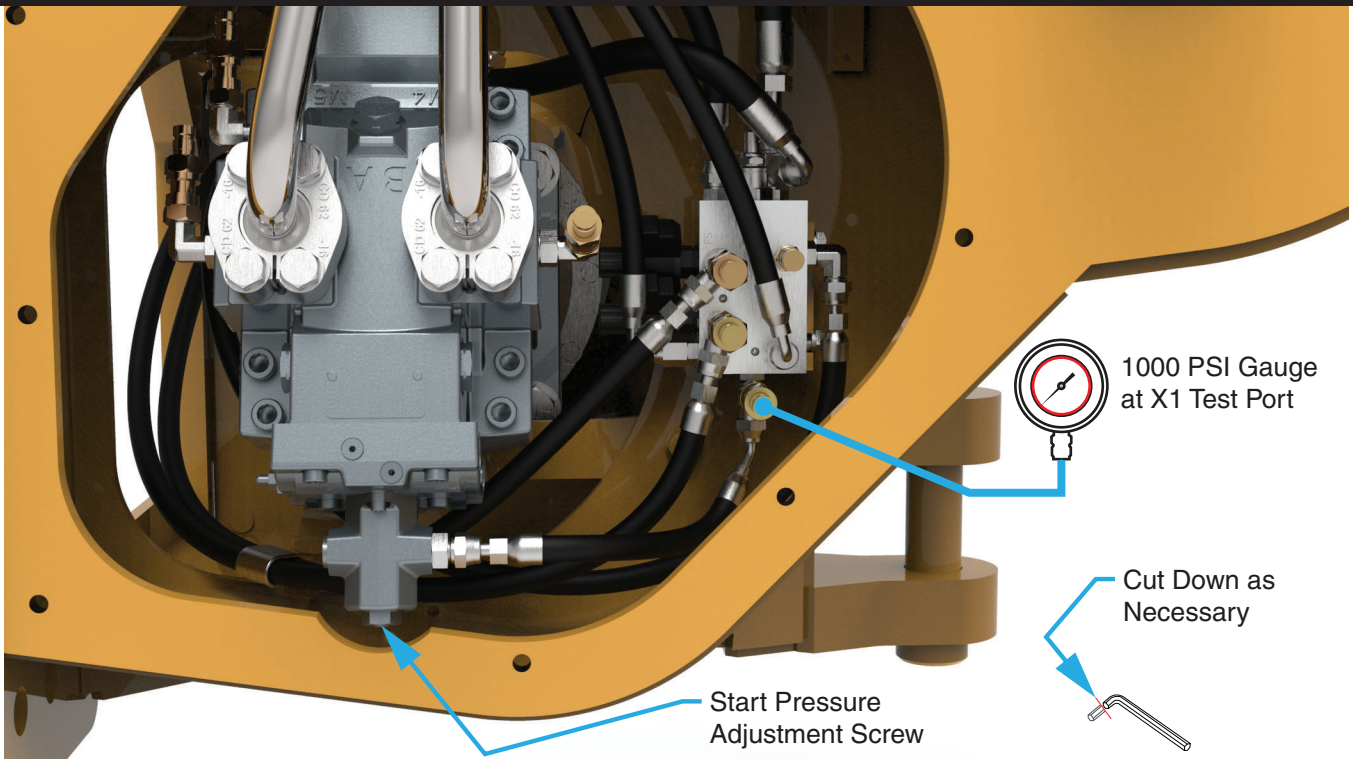

Figure 3-12 Motor Speed Adjustment (L39 shown)
1. You will need to modify a standard 6 mm Allen Wrench as shown in Figure 3-12. Cut it down on the smaller end so that it can fit into the hex socket on the Start Pressure Adjustment Screw.